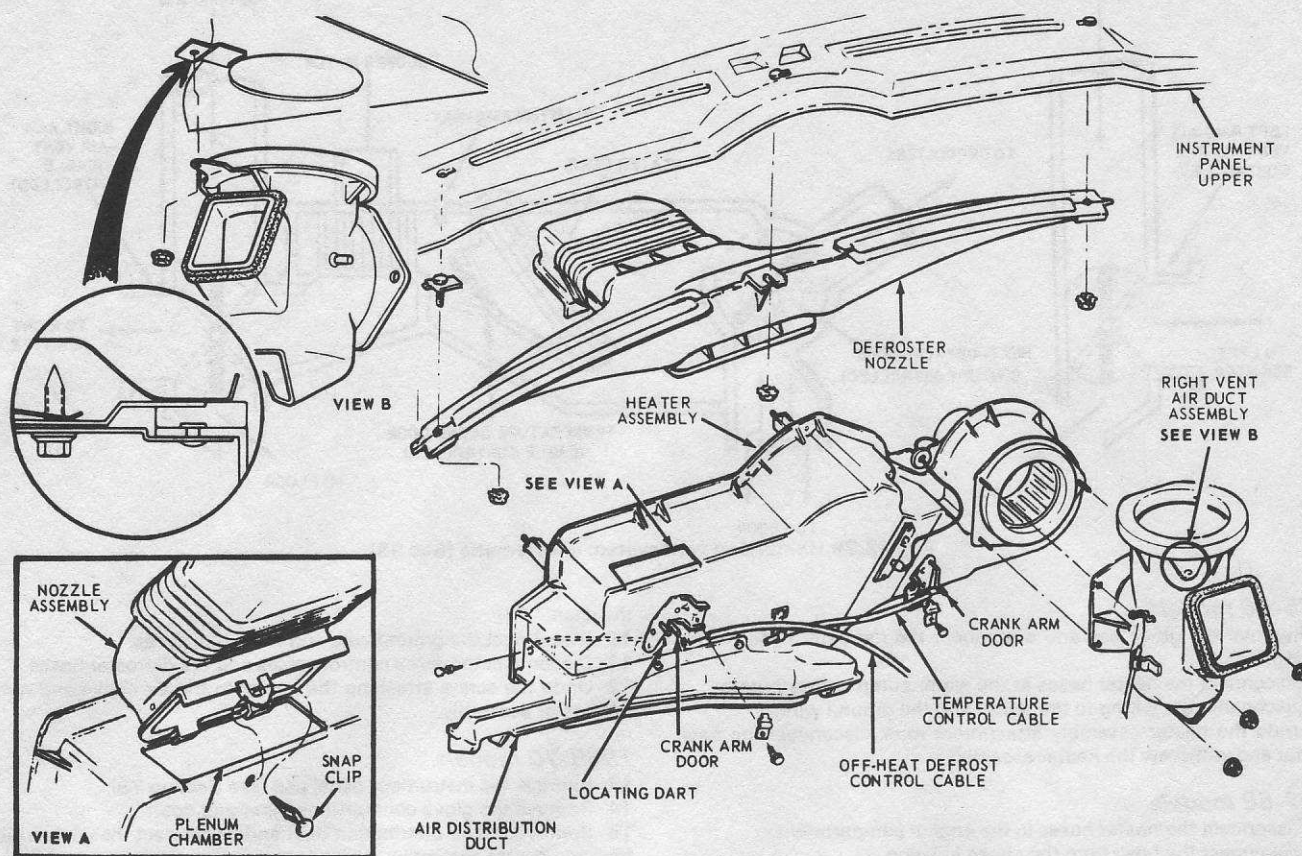

Fig. 12.31 Removing the heater assembly – 1971/73 models (Sec 39)
- 23 Remove the right side vent air duct assembly. It is necessary to remove the glove box to gain access to the duct-to-upper cowl attachment screw and the three duct-to-blower nuts (see Fig. 12.31).